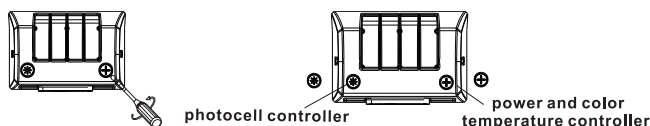

Fig. 10
- 1.) Remove the metal and plastic KO plugs from the top of the fixture (**Fig. 10**)